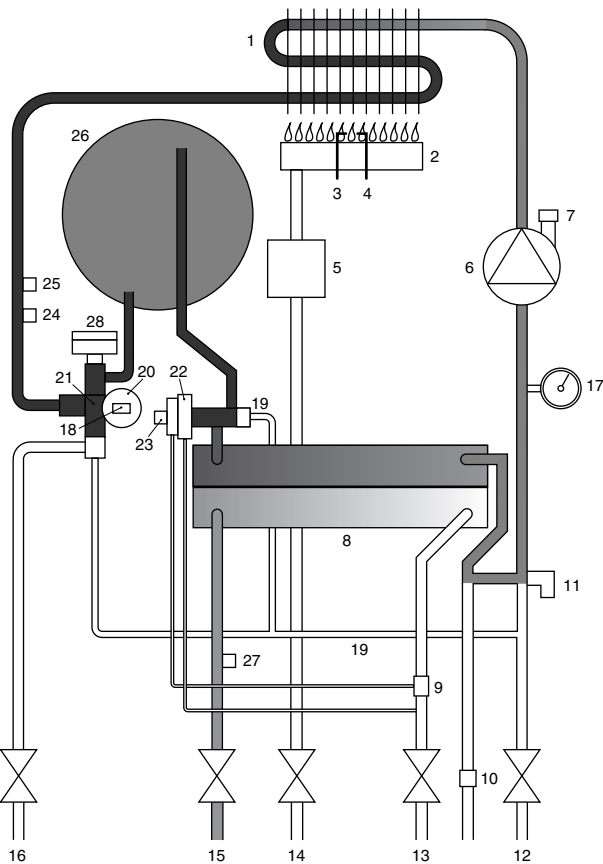

Fig. 3A
3.3 Domestic Hot Water Mode (Fig. 3A)